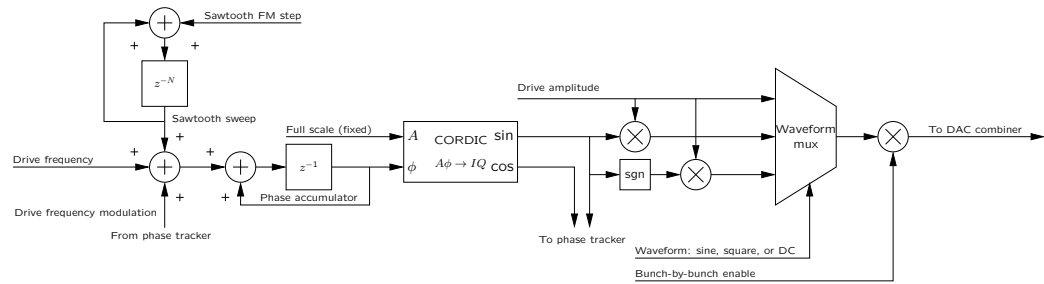

Figure 15: Drive source block diagram
Three independent drive sources are available in iGp12-400F FPGA, 0, 1, and 2. Each source is based on an numerically controlled oscillator (NCO) with sawtooth frequency modulation (FM) capability and bunch-by-bunch enable. Three output waveform types are supported: sinusoidal, square, and direct current (DC). Block diagram of a drive source is shown in Figure 15.